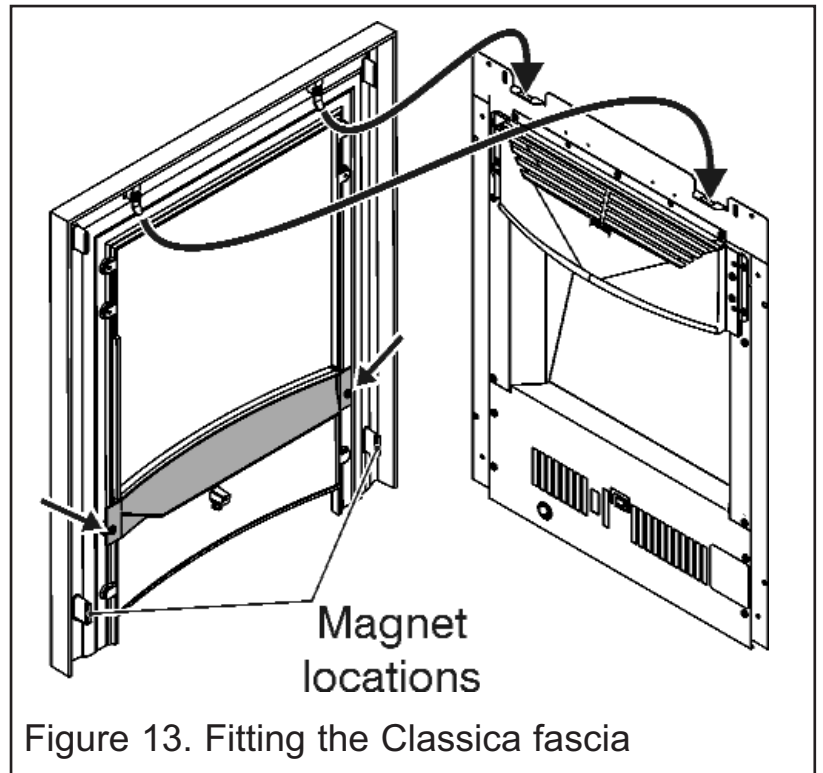

Figure 13. Fitting the Classica fascia
2. There are two magnets on the lower raised areas of the fascia (See figure 13). Ensure that they are located correctly before fitting the fascia.
3. Supplied with the heater is a black decorative moulding. Remove the two screws from the rear of the fascia (See figure 13), locate the moulding and secure using the two screws removed previously.
4. Hold the fascia firmly and lift into place. Keeping the magnets away from the body of the heater, locate the fascia hanging brackets into those on top of the heater (See figure 13). Lower the fascia into place and swing the bottom of the fascia towards the heater to engage the magnets.